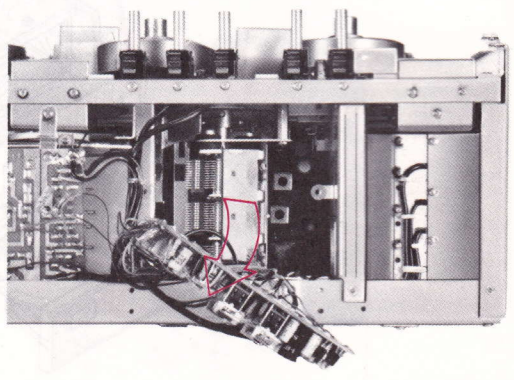

Fig. 2-9
3. Remove the circuit board as shown in Fig. 2-9.